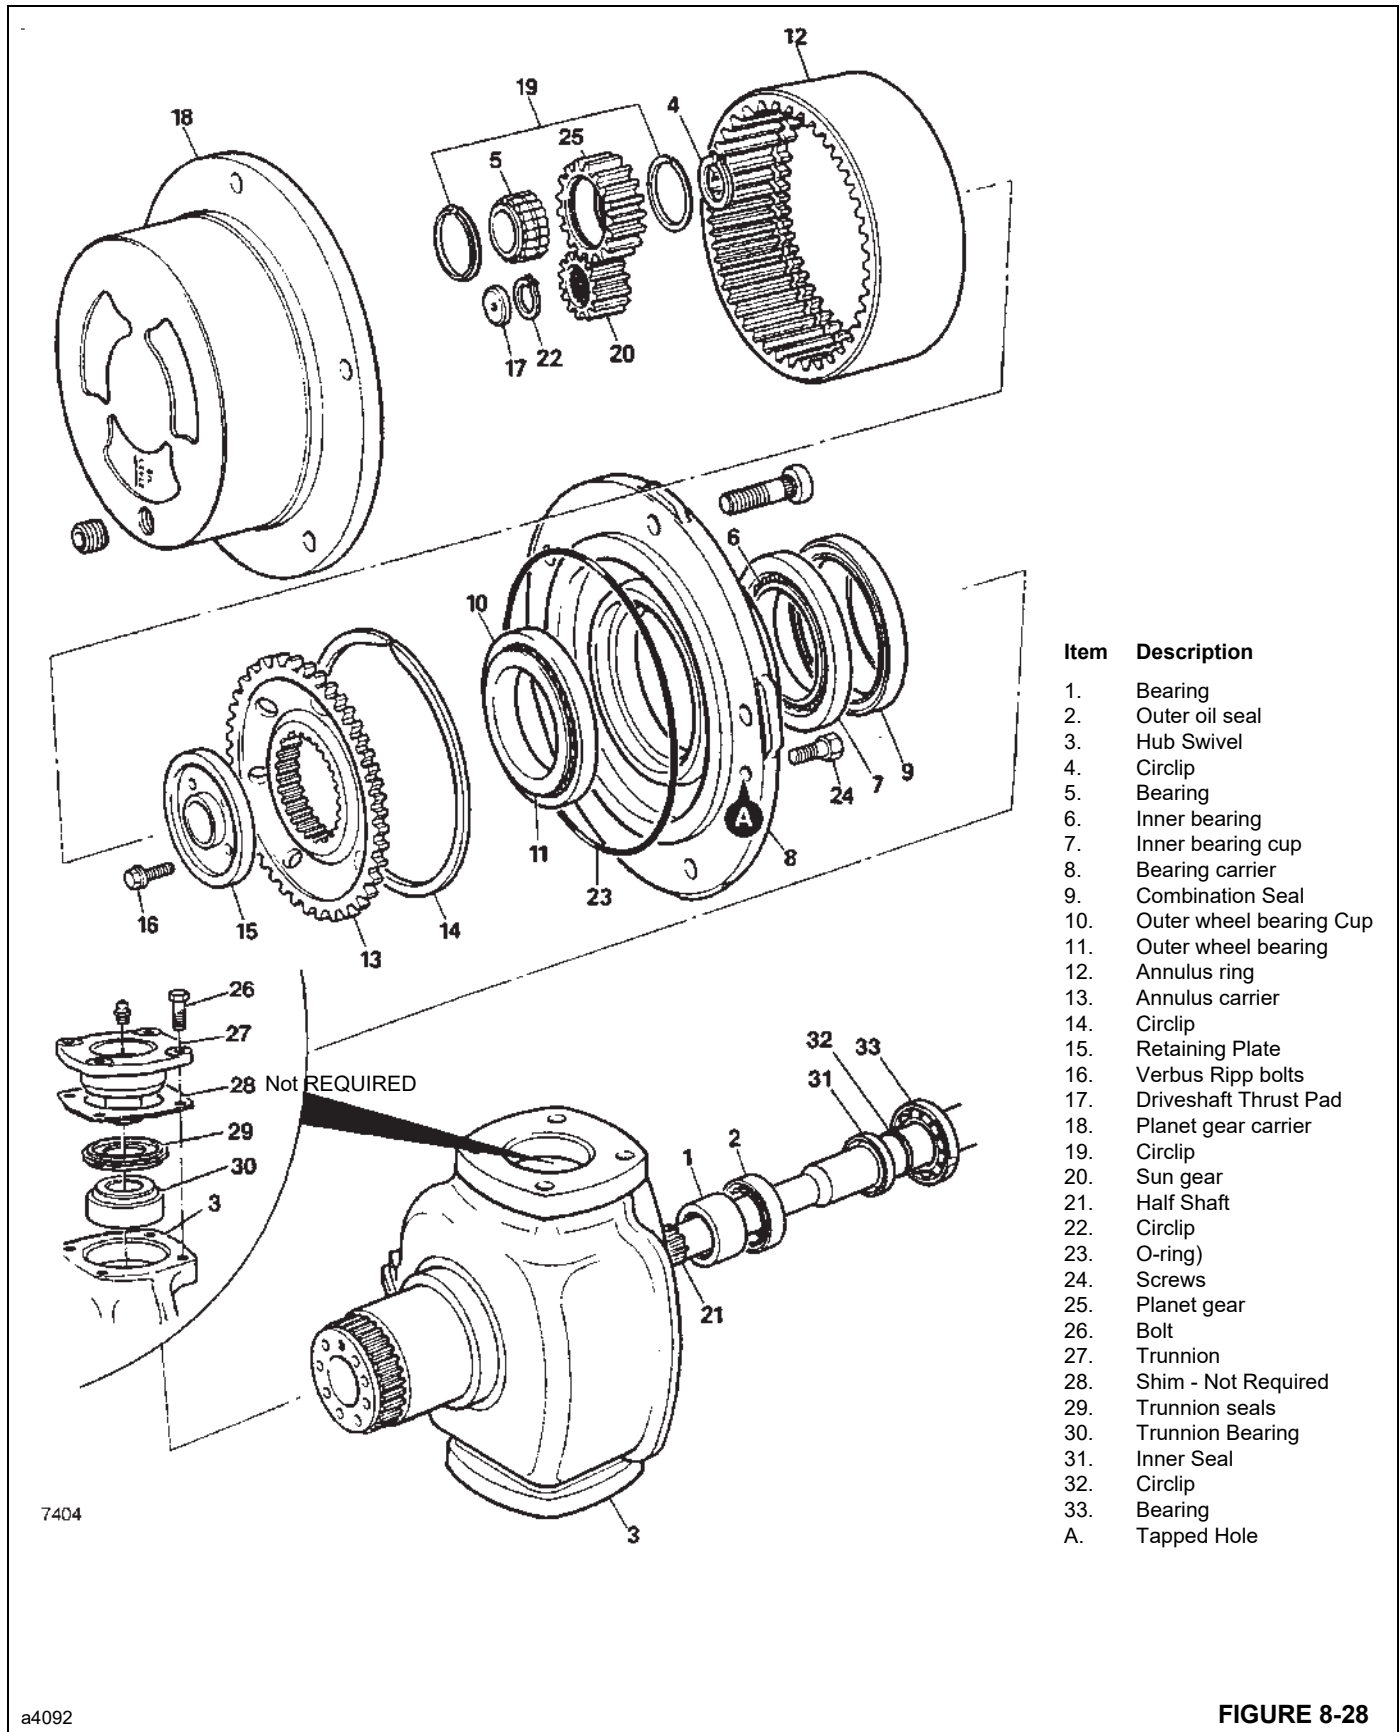

FIGURE 8-28
2. Remove screws **24** (Figure 8-28).
Fit planet gear carrier **25** onto bearing carrier **8**, turning it slightly to engage the gear teeth and aligning the two tapped holes **A** Figure 8-28 in the bearing carrier. (The tapped holes are diametrically opposite one another.) Ensure the planet gear carrier butts fully against the bearing carrier.